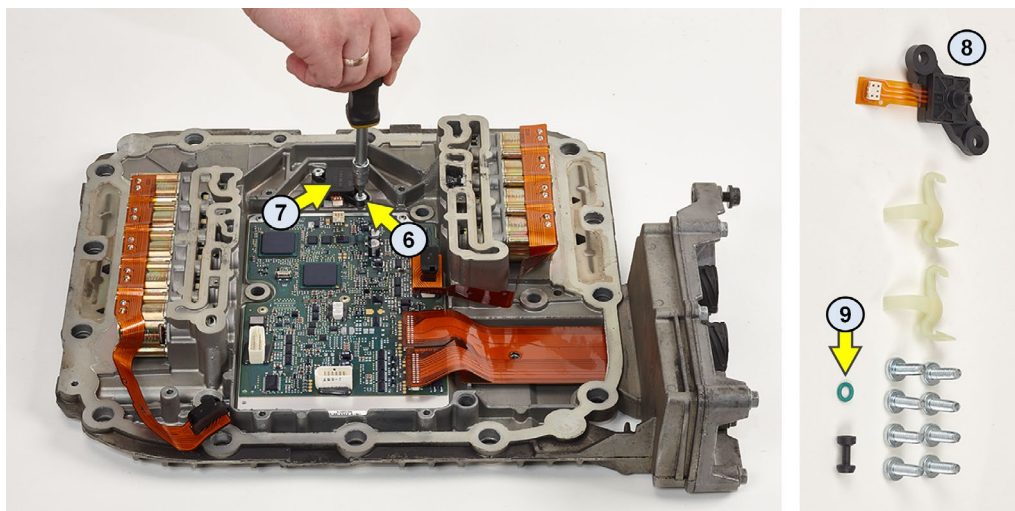

Fig. 2 New parts from the repair kit
- Use all the new parts included in the repair kit see chapter "Fig. 2 New parts from the repair kit" on page 36 to install the new pressure sensor (8).